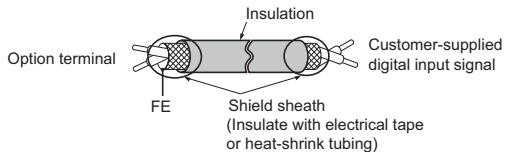
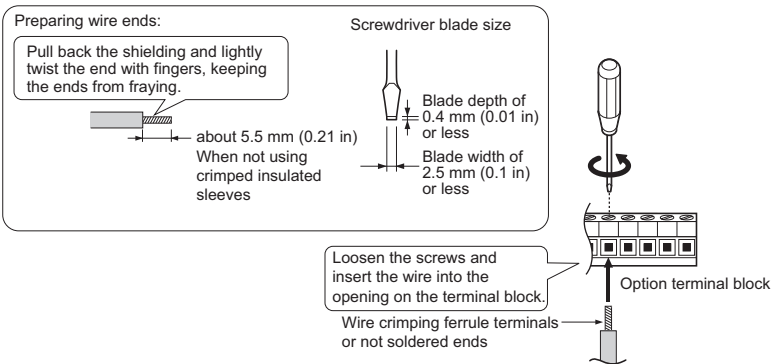

Figure 6 Prepare Ends of Shielded Cable
Figure 7 Connect Cable Wiring
4. Prepare and connect the wire ends as shown in Figure 6 and Figure 7. Refer to Wire Gauges and Tightening Torques on page 38 to confirm that the proper tightening torque is applied to each terminal. Take particular precaution to ensure that each wire is properly connected and wire insulation is not accidentally pinched into electrical terminals.
5. Wire the customer-supplied digital input signal to the terminal blocks on the option according to Figure 7. Refer to Figure 26 for the DI-A3 Option connection diagram. Refer to Table 5 for a detailed description of the option terminal functions.